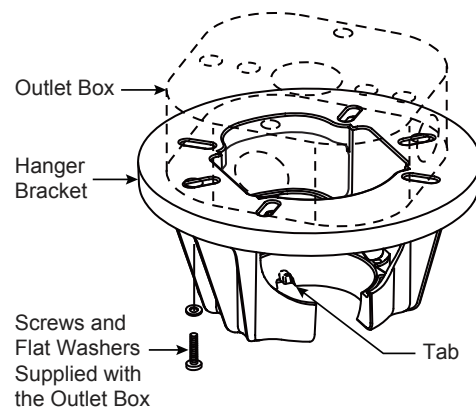
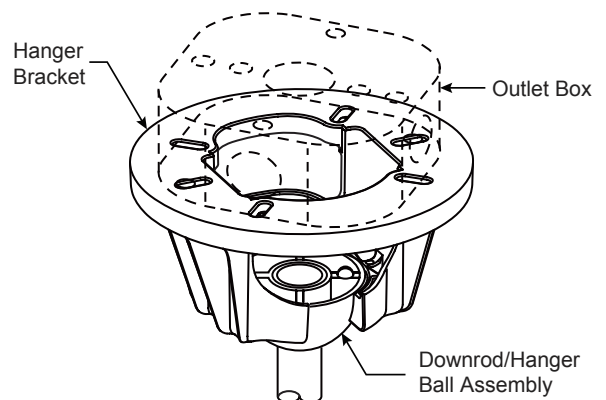

Figure 3
Figure 4
- 3. Carefully lift the fan and seat the downrod/hanger ball assembly onto the hanger bracket that was just attached to the outlet box. (Figure 4) Be sure the groove in the ball is lined up with tab on the hanger bracket. (Figure 3)